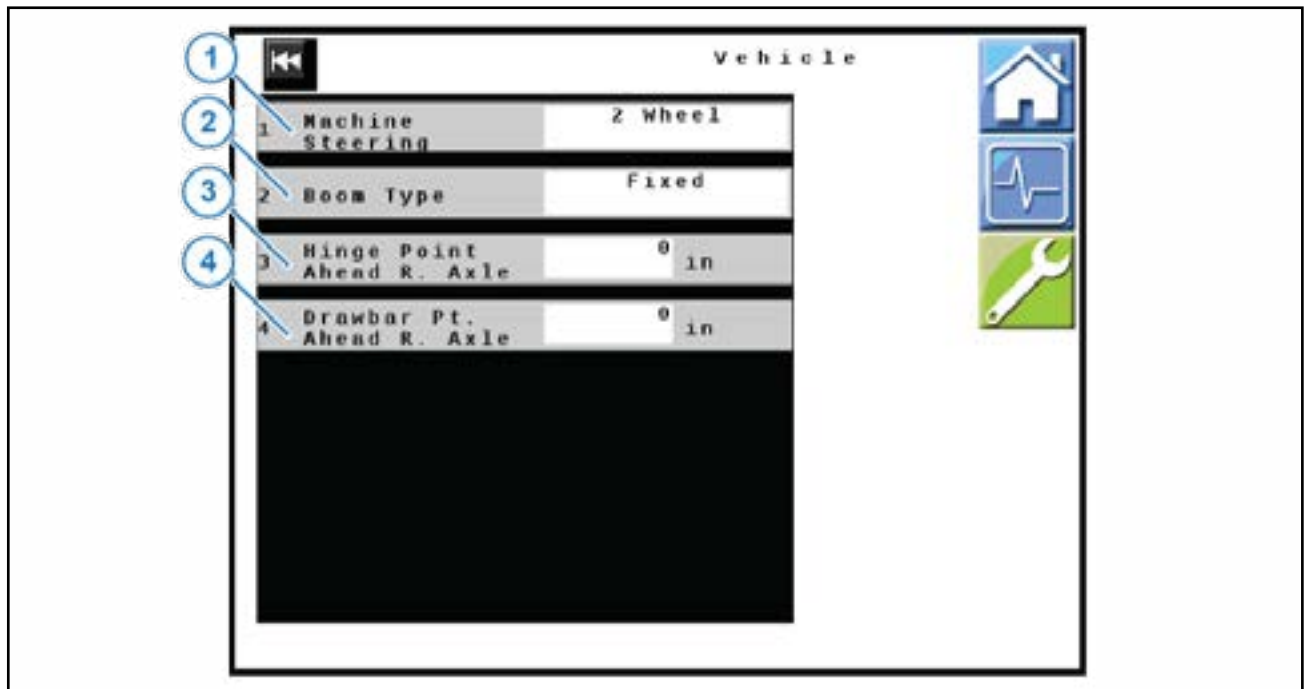

Figure 23: Vehicle Settings
2. Select the correct **Machine Steering** (Figure 23, Item 1) option for your machine:
3. Select correct **Boom Type** (Figure 23, Item 2) option for your machine:
Note: If using a fixed boom sprayer, the **Hinge Point Ahead Rear Axle** and the **Drawbar Point Ahead Rear Axle** values will be left at zero. If using a Pull Type sprayer, refer to Figure 23 for measurement instructions. For setting definitions navigate: **Navigation Settings > Menu Descriptions**.
5. Enter the correct **Drawbar Pt. Ahead R. Axle** measurement (Figure 23, Item 4) on the **Vehicle** screen as a (-) negative value. The remaining values will be entered on the **Implement** screen.